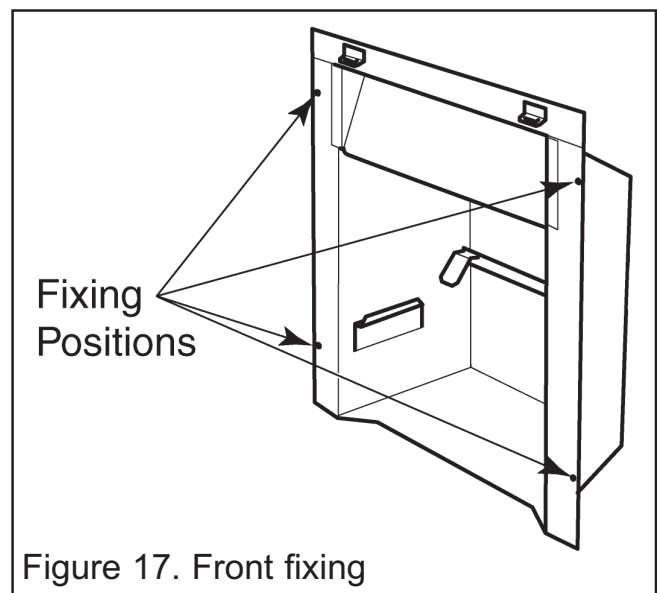

Figure 17. Front fixing
3. Mark the fireplace front surround through the four fixing holes in the side flanges of the convection box (See figure 17).